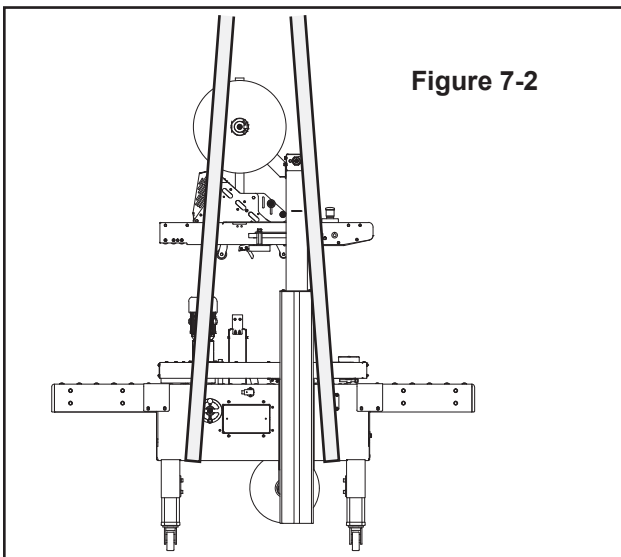

Figure 7-2
- 1 - Lift the machine with belts or ropes paying attention to place the belts in the points (**Figure 7-2**).